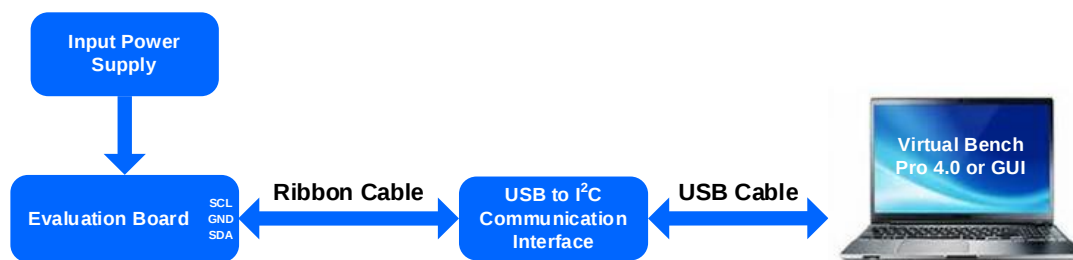

Figure 1: Connection to the I²C Interface
6. Toggle SW1 to the low (L) side, and toggle SW2 to the high (H) side.
7. Connect the SDA, SCL, and GND pins to the I²C interface, then open Virtual Bench Pro 4.0, the MPQ79500FS's graphic user interface (GUI) (see Figure 1).